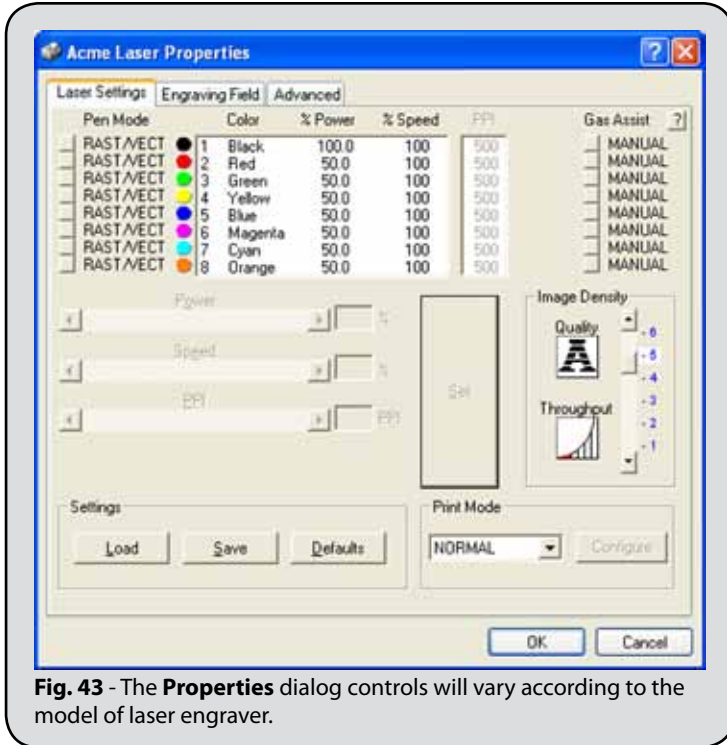

Fig. 43 - The **Properties** dialog controls will vary according to the model of laser engraver.
10. The controls on the **Properties** dialog will vary according to your model of laser engraver (Fig. 43). For specific instructions concerning these controls, please refer to the documentation provided with your laser engraver.